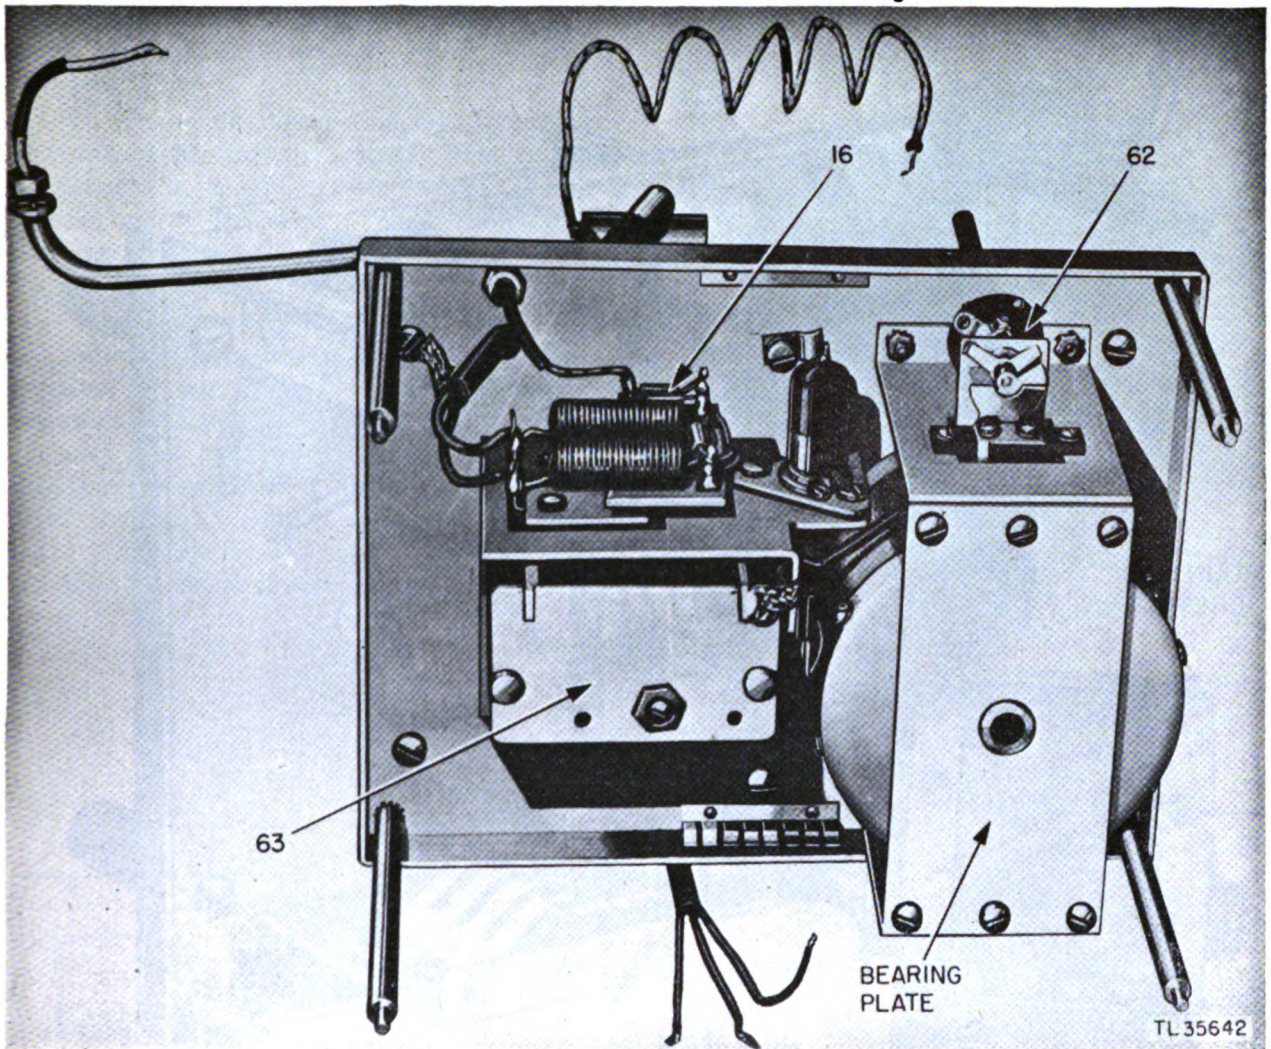

Figure 228. Signal Generator I-222-A, rear view of dial panel.
*e.* To replace variable capacitor 63, remove the high-low frequency oscillator assembly from the panel, as described in paragraph 194*c.* Remove the four dial mechanism mounting screws. With a No. 8 Allen wrench, remove the two setscrews, which connect the dial shaft with the capacitor rotor shaft, at the dial shaft universal joint. Remove the dial mechanism from the high-low frequency-oscillator assembly mounting plate. Remove tube 5. Unsolder the wire, encased in the metal tubing, at the terminal of resistor 16 (see fig. 228). Unsolder the wire connected to the terminal of capacitor 62 (see fig. 228). Remove the three capacitor-support mounting screws
*f.* To replace l-f band coil 101 or h-f band coil 100, remove the high-low frequency oscillator assembly as described in paragraph 194c. Remove the six bearing plate mounting screws. Remove the bearing plate and the coil turret (see fig. 228). Remove the eight screws that mount the end of the coil turret to